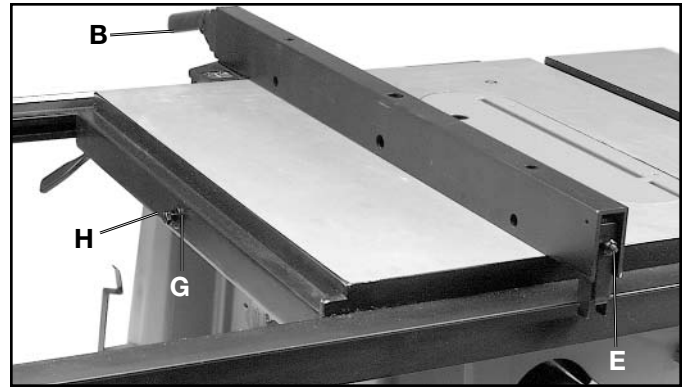

Fig. 23
8. The clamping action of the fence (A) Fig. 23, can be adjusted by lifting up locking lever (B) and turning nut (E) clockwise to increase or counterclockwise to decrease the tension of the clamping action of the fence.
5. If an adjustment is necessary, adjust the “0” mark by loosening nut (G) Fig. 23, and turning screw (H) clockwise to move the “0” mark to the left, and counter clockwise to move the “0” mark to the right, once the “0” is set properly on the rip fence guide rail, turn nut (G) counterclockwise to lock nut (G) against screw (H).